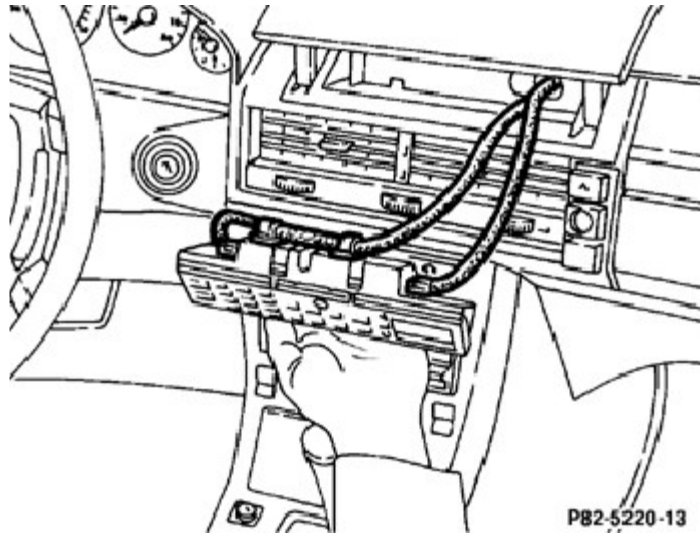

Figure 2
5. Connect two 12-pole connectors to in-dash controller. Connect microphone connector to connection on top center of controller (Figure 2).